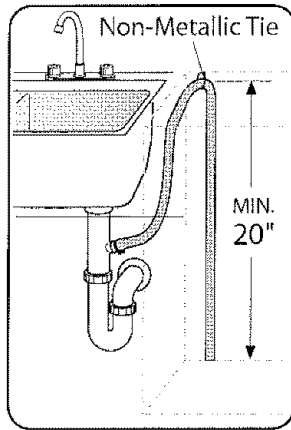

Figure 8
- 1 Directly to the undersink dishwasher drain connection, as shown in Figure 8.